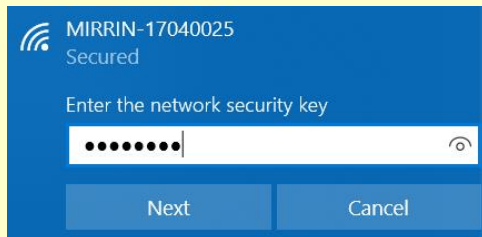
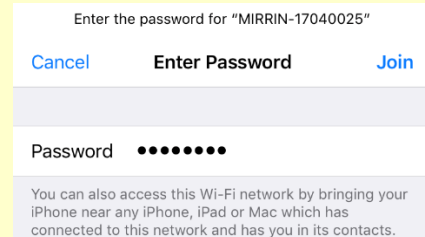

Figure 6 – WiFi connection via PC
Figure 7 – WiFi connection via iOS device
2. The WiFi module will remain on for 60-seconds and the SSID will appear as 'MIRRIN-{serial number}' as shown in **Figure 6** & **Figure 7**. Throughout this time the user can connect to the Mirrin's WiFi hotspot via a PC, smartphone or tablet. When prompted to enter a password, please enter 'mirrinpw'.